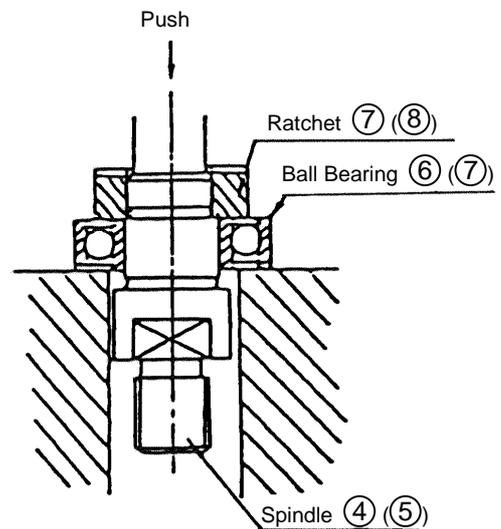

Fig. 11
(3) Removal of Ratchet (B):
As illustrated in Fig. 11, support the 6002DDCM Ball Bearing ⑥ (⑦) with an appropriate tubular jig, and push down on the tip of the Spindle ④ (⑤) with a hand press to simultaneously remove Ratchet (B) ⑦ (⑧) and the 6002DDCM Ball Bearing ⑥ (⑦).